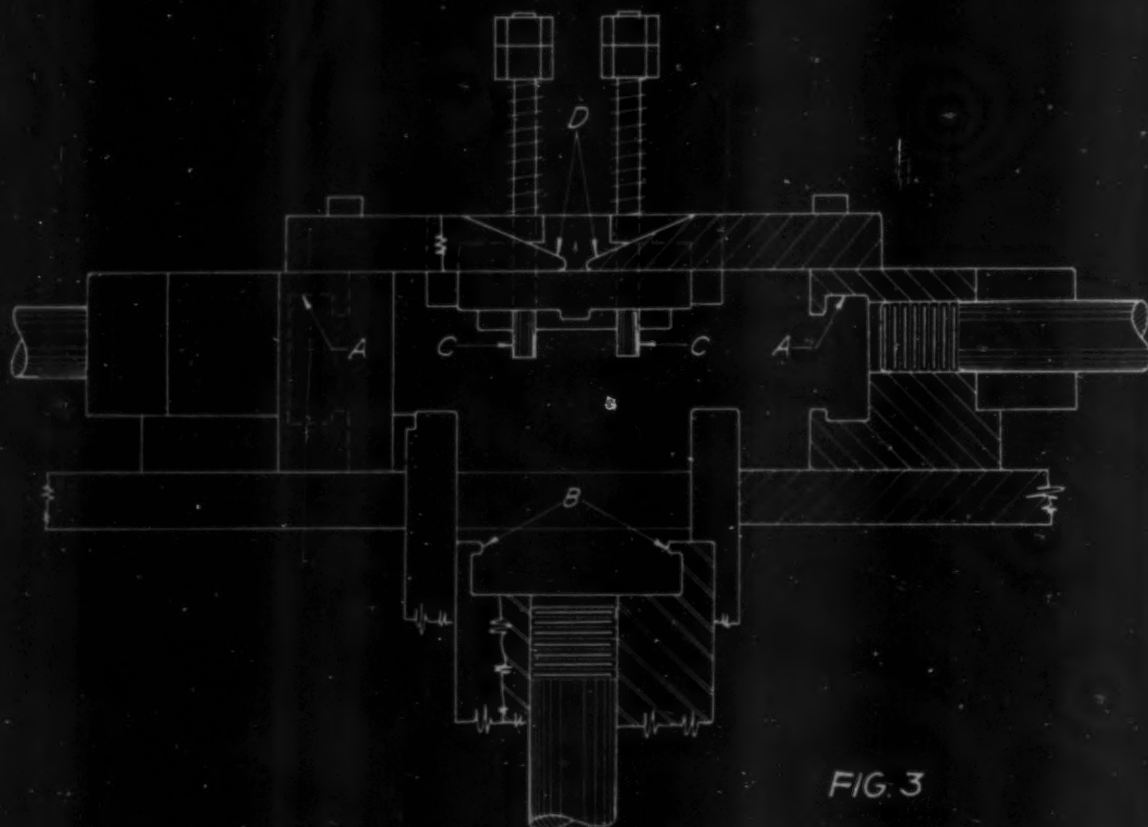

FIG. 3
When copper became a critical material, the engineers of the American Instrument Co., turned to plastics as replacements for the copper and brass used in less precise parts. After the conversion it was found that the plastics actually enhanced the value of the instrument. This is particularly evident in the case of the acetate cover which the instrument company purchases from a large molding plant. Injection molded in a one-cavity die, this plastic part weighs 93 grams and is produced in a one-minute molding cycle. The emblem is raised on the inside at such an angle that advantage is taken of the critical reflectance angle of the material. As a result the letters take on a silvered appearance. As can be seen in Fig. 3, the border of the emblem is extended down toward the operator so that it can serve as an index for the pointer on the balance arm of the gage. Shoulders on the inside corners of the case permit the cover to fit on the metal base of the instrument. The small slots accept knurled head screw studs which hold the housing in position.
Figure 3 shows the disassembling fixture in an open position with the mold removed. This cross-section gives a clearer conception of the construction of the hooks (A) which grasp the mold bars upon which the core pins are mounted. Of similar design is the fork (B) which holds the base plate
and knob are shown in Fig. 3. The thread method of assembly was eliminated because of the need for reducing the machining operations not only on the knob but on the metal lever as well. Another reason for the abandonment of the threaded parts was a tendency on the part of the knob to come unscrewed.